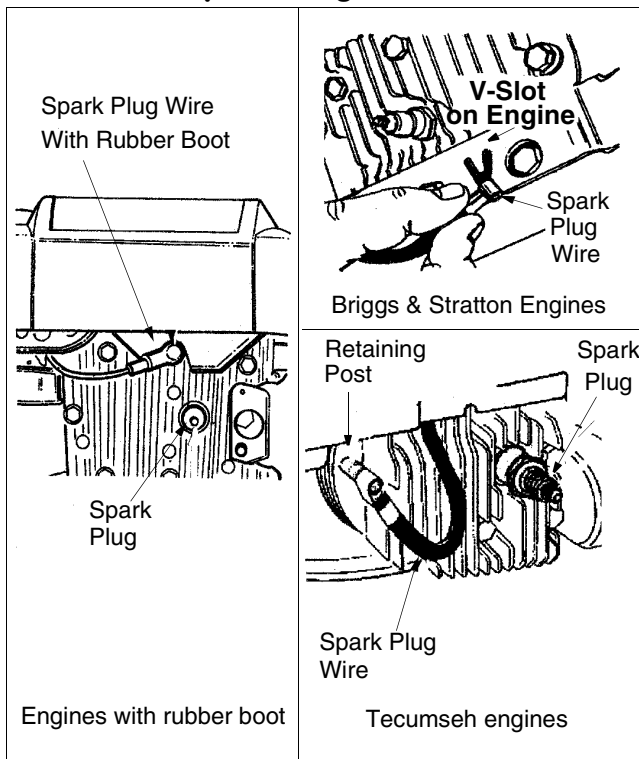

Figure 1
- Before setting up your lawn mower, disconnect spark plug wire from the spark plug, and ground it against the engine. See Figure 1.
- In the case of lawn mowers where engine is equipped with a rubber boot, attach rubber boot to a bolt on the engine to ground. See Figure 1.